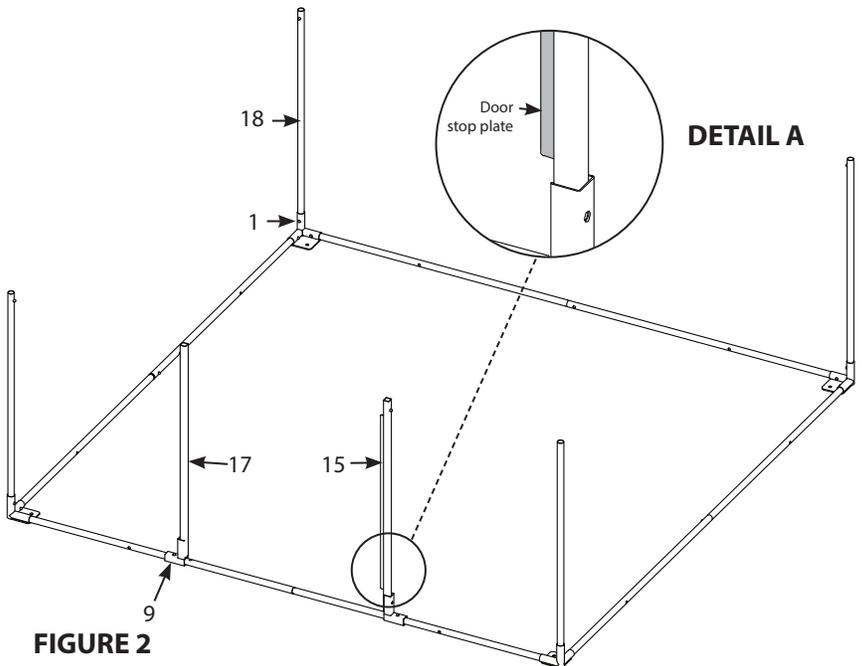

FIGURE 2
2. Slide the four (18) poles into the base hubs (1) so that the snap buttons secure the parts together. **SEE FIGURE 2.**
Slide the (15) pole and (17) pole into the door hubs (9) so that the snap buttons secure the parts together. **SEE FIGURE 2.** Be sure that the door stop plate on pole (15) is facing interior of blind as shown in **DETAIL A.**